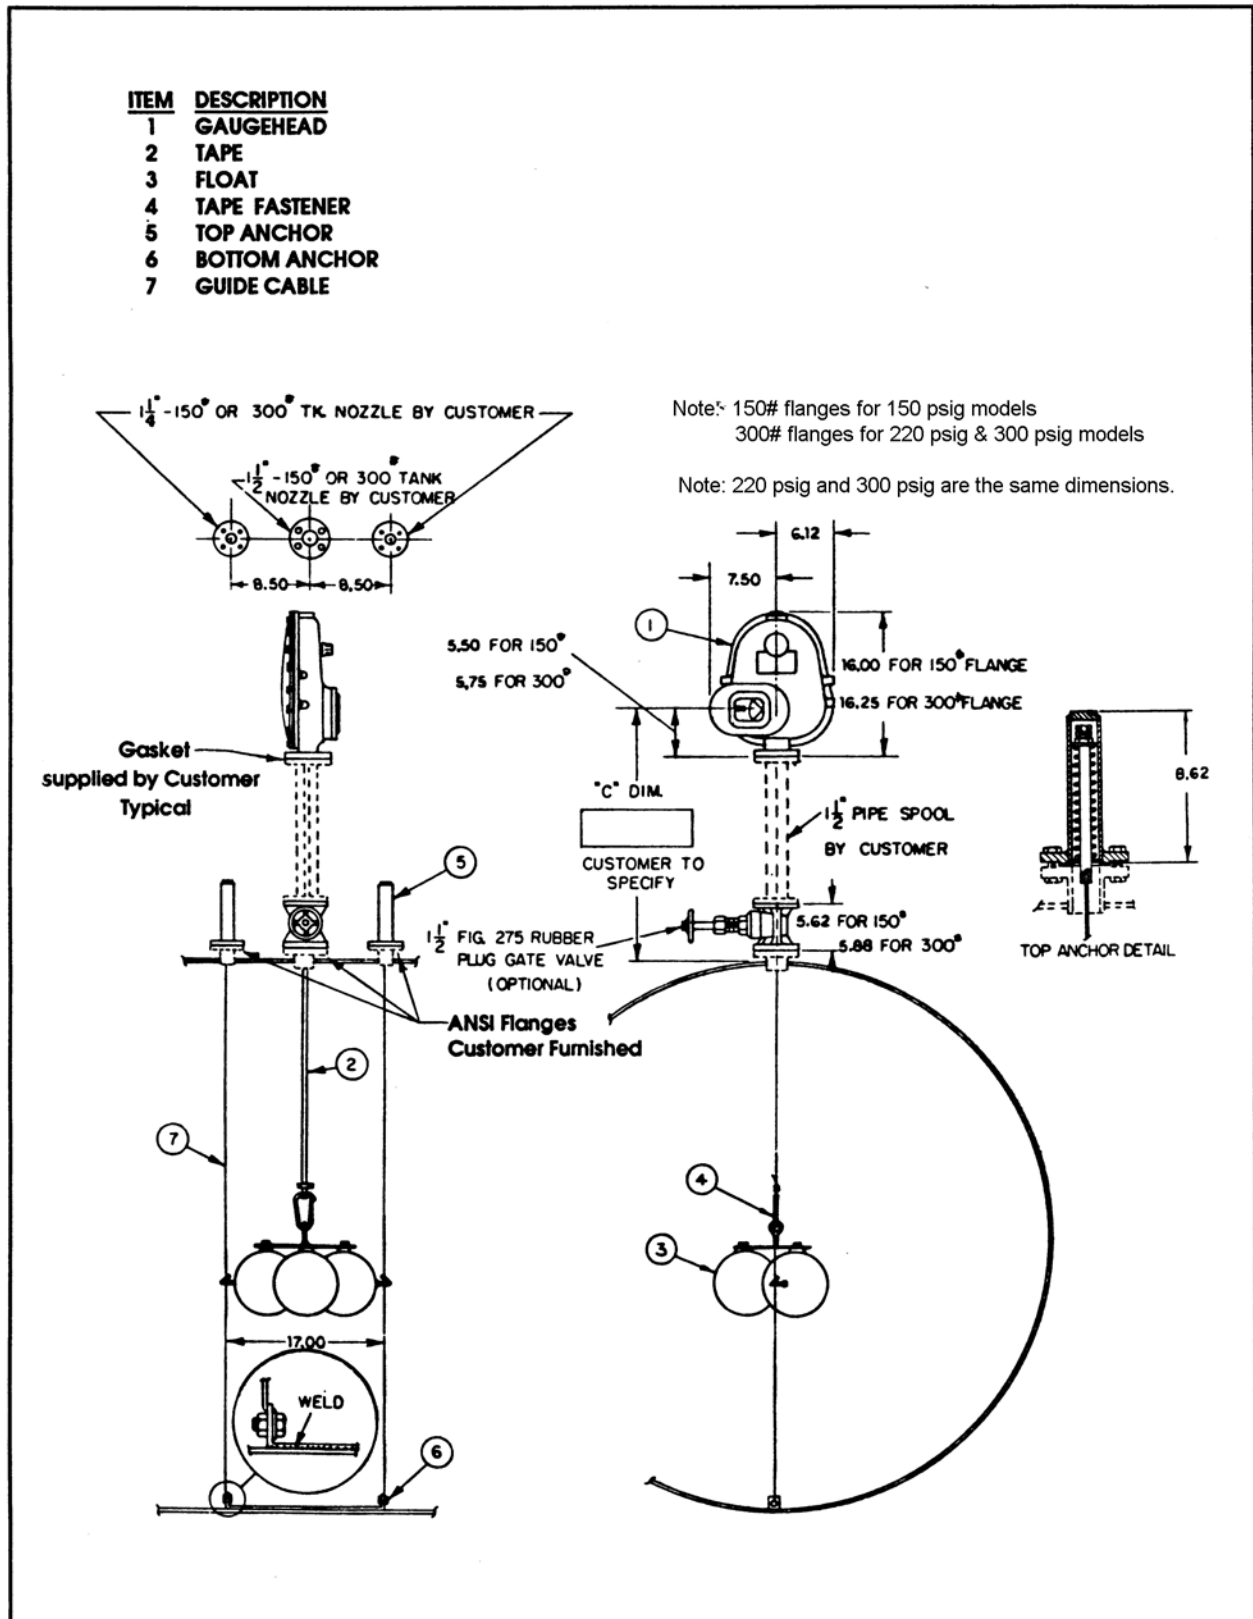

Figure 3-10: Top Reading Roof Tank, Typical Installation
For tank top reading gaugehead installations see Figure 3-10 on page 37 for codes N2520 01 T03, N2520 02 T03, N2520 03 T07, N2520 04 T07, N2520 05 T07, and N2520 06 T07. Refer to Table 8-1, Table 8-2, and Table 8-3 on pages 57 and 58 for details.
2. Provide the roof holes shown in Figure 3-10 on page 37, centered on this position. The guide cable holes are centered 8.50 inches (216 mm), each side of the center of the cluster of floats. The tape pipe is centered on a 17.00 inch (432 mm) diameter. The plug valve is also centered on this dimension.
Figure 3-10 shows a typical installation for a top reading roof tank.